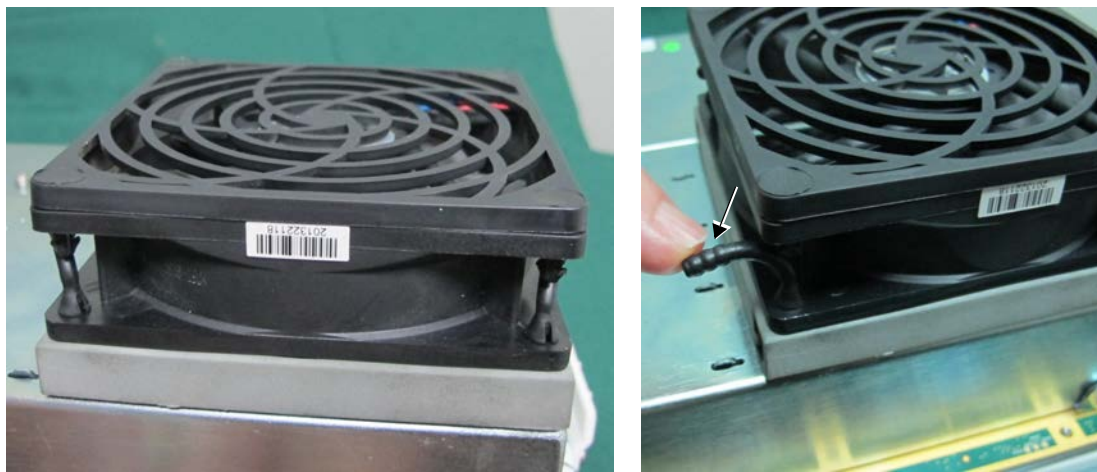
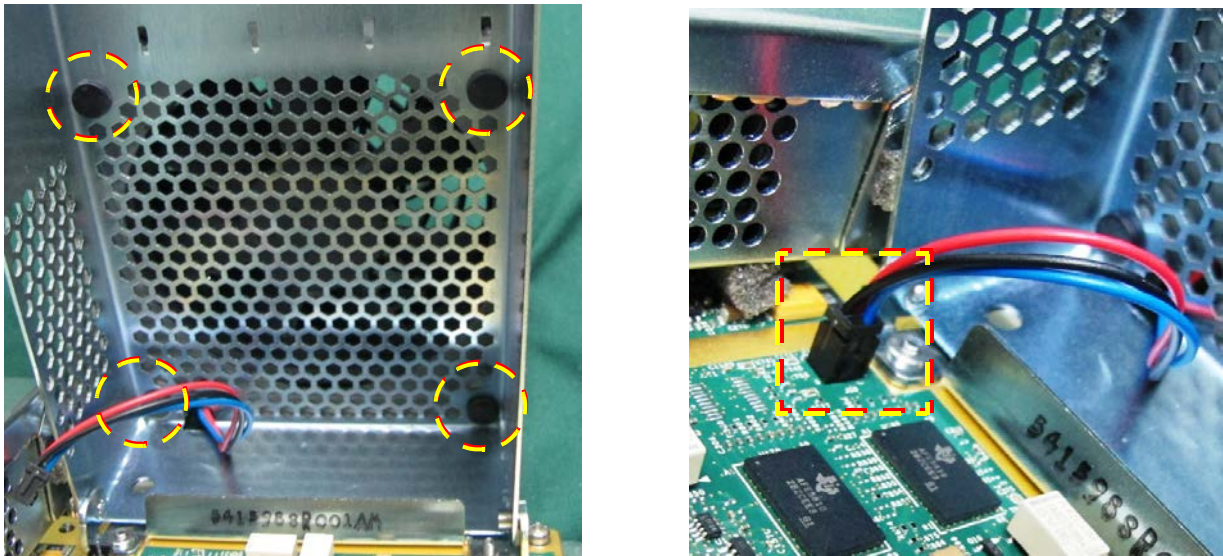

Figure 8-159 Fan Secured to TRX32 Box
Figure 8-160 TRX32 Cover and Fan Cable
- 5) Cut each of the four rubber grommets and remove them to release the fan (see Figure 8-159).
- 1) Position the new fan on the TRX32 Box cover then thread the fan cable through the top of the cover and lead it through as shown in Figure 8-160 (right).
- 2) Using the rubber grommets provided, thread each rubber grommet from the inside of the TRX32 Box cover through to the new fan - Figure 8-160 (left) - and pull it through from side of the fan until each grommet is firmly in position securing the fan - see Figure 8-159, above.
- 3.) Connect the fan cable to the CFE board - see Figure 8-160, above.